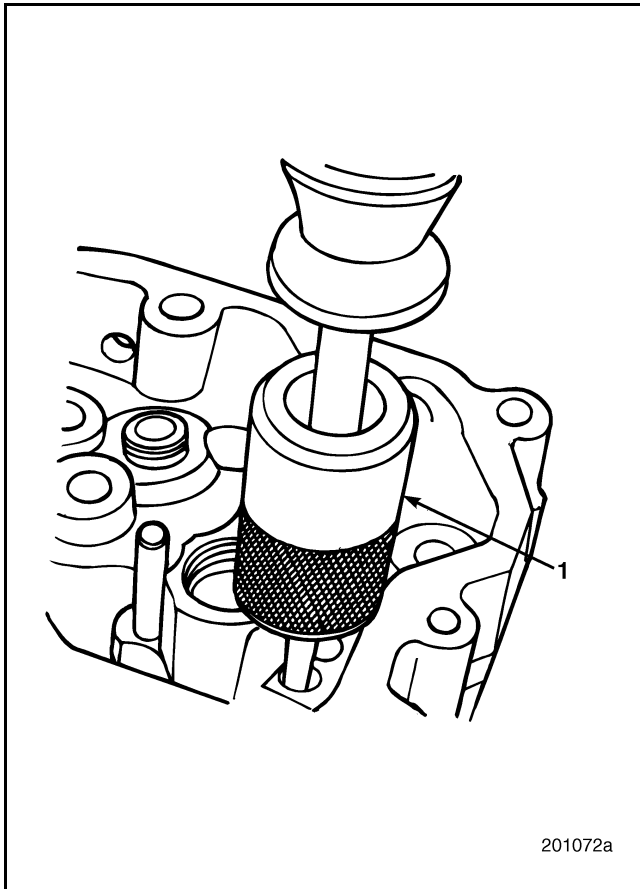

Figure 205 — Valve Yoke Guide Pin Removal
6. Using a slide hammer fitted with a 3/8-inch NC extractor, remove the broken yoke pin from the cylinder head (Figure 205).